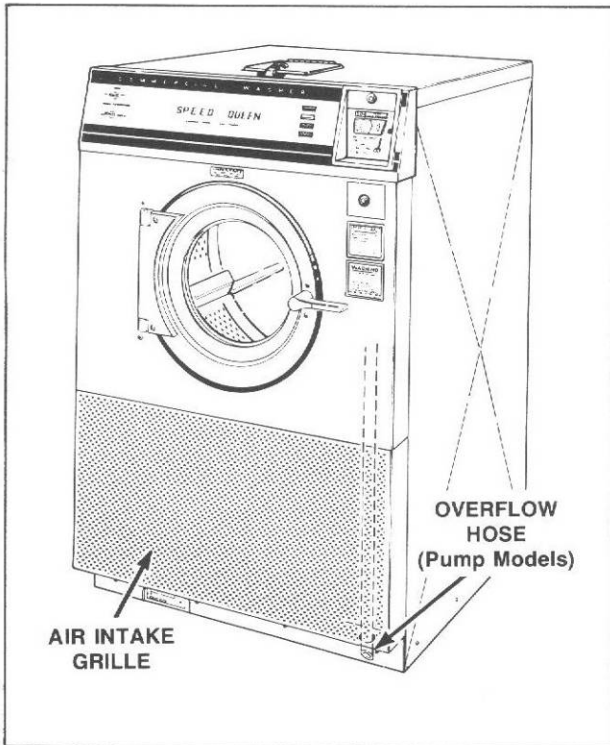

Figure 4
**6. AIR INTAKE GRILLE** (Refer to Figure 4)